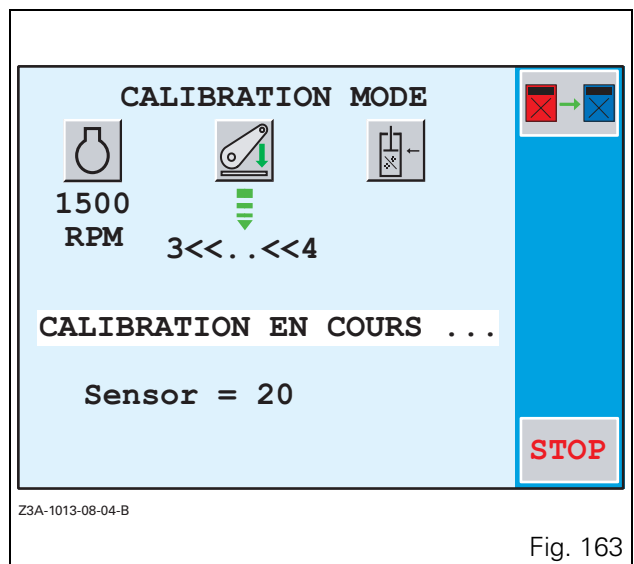
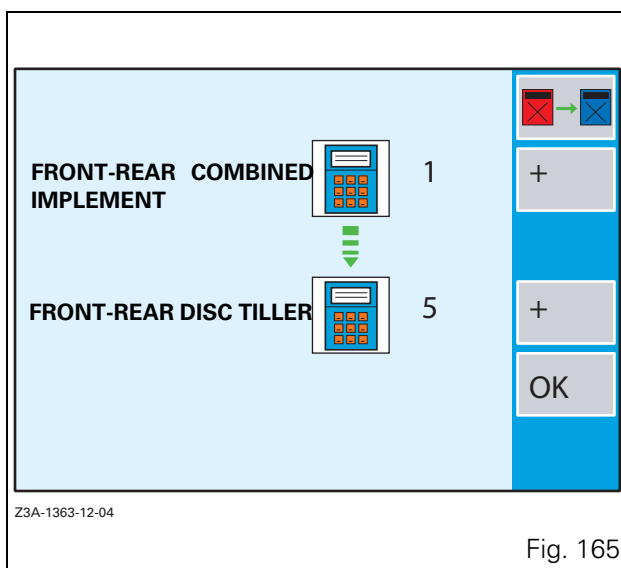

Fig. 163
Fig. 165
- Press the key \ll_6 (GO). Calibration starts and a new window is displayed (Fig. 163).
- To download a calibration in another memory, press the key «**1** when the window (Fig. 163) is open. The window (Fig. 165) is displayed.